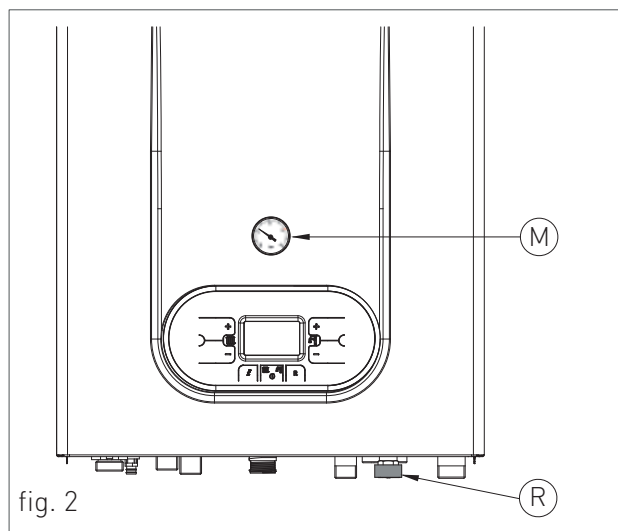

fig. 2
LOCATION (SEE FIG.2 AT CHAPTER 'POSITIONING AND MINIMAL TECHNICAL SPACES').
It is allowed an outdoor installation in a partially protected location (i.e. shelter, balcony) that respect the minimum measure indicated in figure 2.
3. open the feeding tap "R" (fig. 2);
5. use pressure gauge "M" (fig. 2) to make sure that the system pressure reaches 1.2 bar (fig. 4);
6. after performing this operation, make sure that the loading tap "R" (fig. 2) is properly closed.